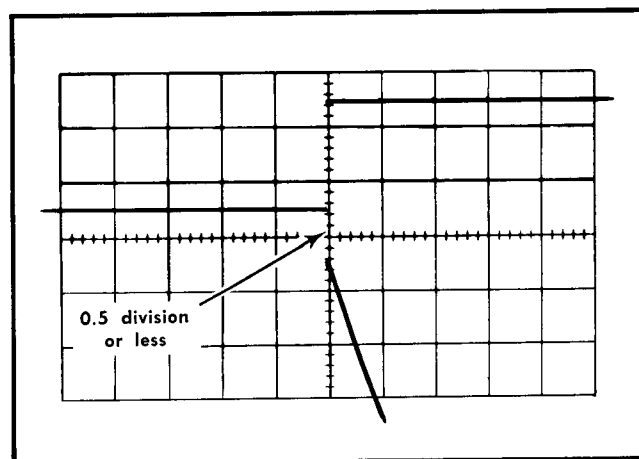

Fig. 5-30. Typical CRT display showing correct calibrator repetition rate.
- Position the display so the tips of the markers fall just below the rising portions of the square wave (see Fig. 5-30).
i. CHECK—Separation between Calibrator waveform leading edge and the marker leading edge not to exceed 0.5 division (0.5% accuracy; see Fig. 5-30).